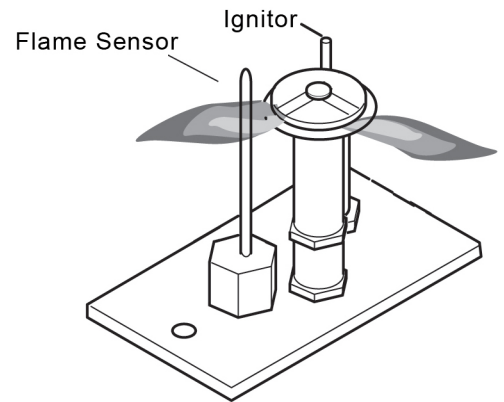

Figure 39 - Before taking unit apart, check pilot flame. Flame should touch Flame Sensor and Ignitor.
1. Check pilot flame. Flame should touch approximately $\frac{3}{8}$ " of the top of Flame Sensor and Ignitor. *See Figure 39.* If not, contact dealer for service.